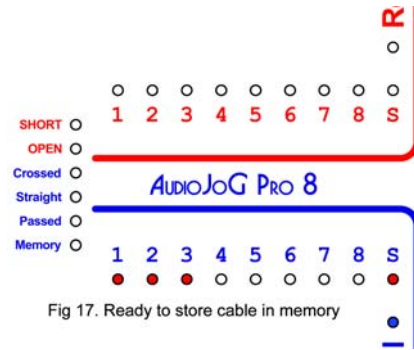

Fig 17. Ready to store cable in memory
1. Once again at the 'local' screen LED on position press and hold until the MEMORY LED lights (Fig17).